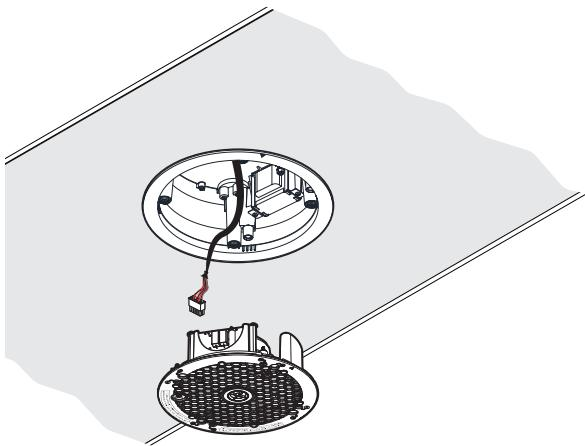

Figure 1. Connect the Speaker Wires
- a.** Connect the speaker wires from the back can enclosure to the speaker assembly (see figure 1).